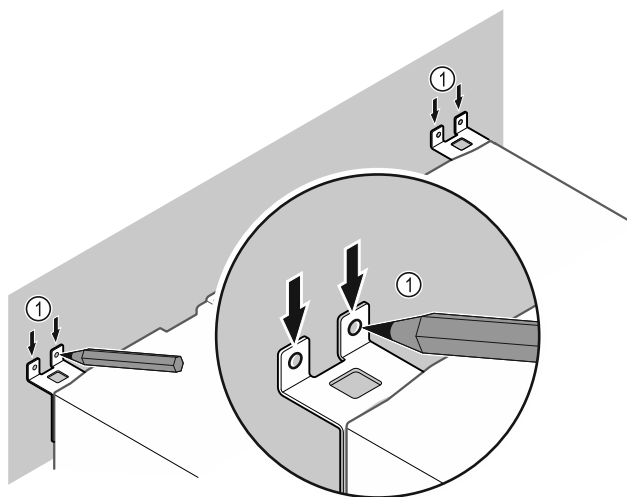

Fig. 10
- ▶ Make markings on the wall Fig. 10 (1).